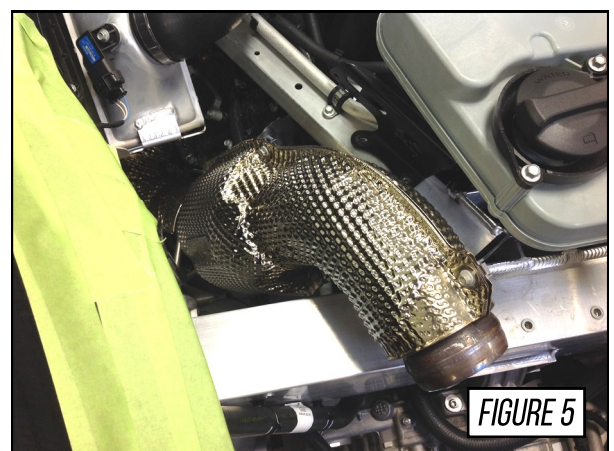

FIGURE 5
*Driver side downpipe removal (shown in **Figure 5**):*